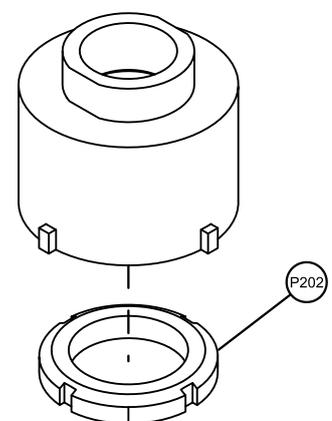

Fig. 13.9
- Tool D000 9750 can be used to tighten locknuts see Fig. 13.9